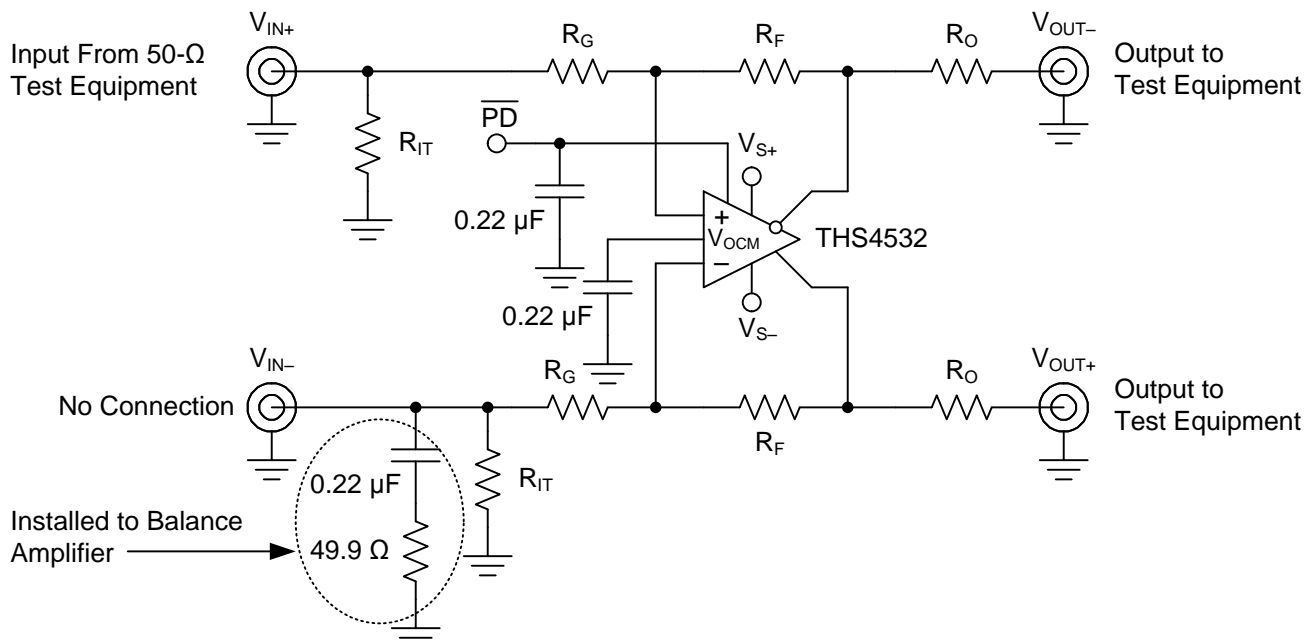
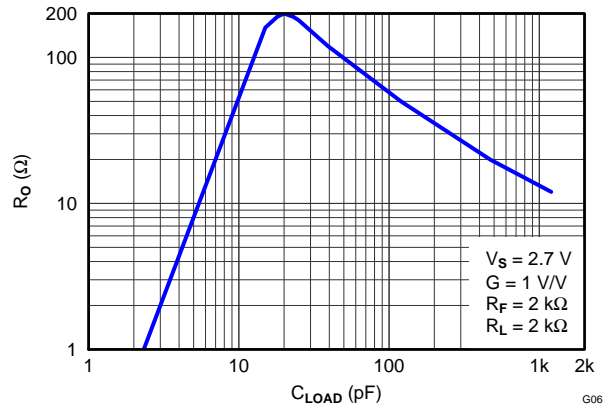
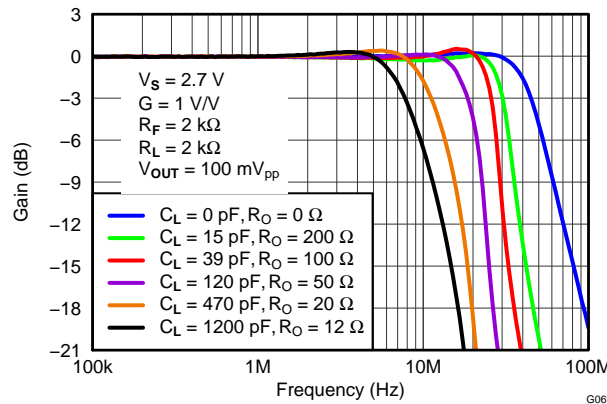

Figure 71. Slew Rate, Transient Response, Settling Time,  $Z_O$ , Overdrive Recovery,  $V_{OUT}$  Swing, and Turn-on/off Test Circuit
Figure 82. Recommended Series Output Resistor vs Capacitive Load for Flat Frequency Response
Figure 83. Frequency Response for Various  $R_O$  and  $C_L$  Values
The circuit shown in Figure 71 is used to measure slew rate, transient response, settling time, overdrive recovery, and output voltage swing. Turn on and turn off times are measured with 50 $\Omega$  input termination on the  $\overline{PD}$  input, by replacing the 0.22 $\mu$ F capacitor with 49.9 $\Omega$  resistor.
Inserting  $R_O$  will compensate the phase shift and restore the phase margin, but it will also limit bandwidth. The circuit shown in Figure 71 is used to test for best  $R_O$  versus capacitive loads,  $C_L$ , with a capacitance placed differential across the  $V_{OUT+}$  and  $V_{OUT-}$  along with 2k $\Omega$  load resistor, and the output is measure with a differential probe. Figure 82 shows the optimum values of  $R_O$  versus capacitive loads,  $C_L$ , and Figure 83 shows the frequency response with various values. Performance is the same on both 2.7V and 5V supply.
4. A series output resistor is recommended to be placed as near to the output pin as possible. See Figure 82 "Recommended Series Output Resistor vs. Capacitive Load" for recommended values given expected capacitive load of design.